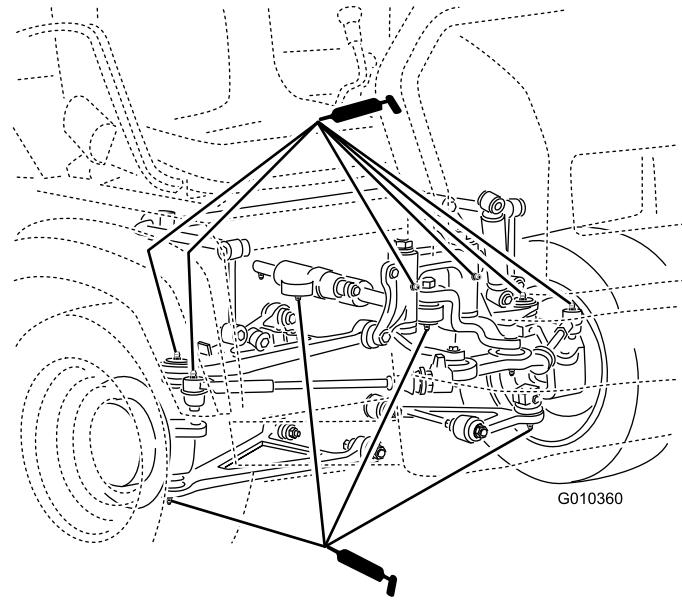

Figure 26
- Ball joints (4);** refer to Figure 26
- Tie rods (2);** refer to Figure 26
- Pivot mounts (2);** refer to Figure 26
- Steering cylinder (2);** refer to Figure 26